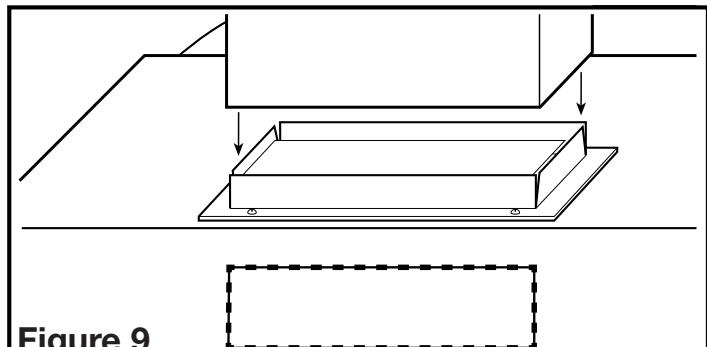

Figure 9
- Connect the ducting to the hood's duct collar and damper. Secure in place using tape to seal all joints (Figure 9).